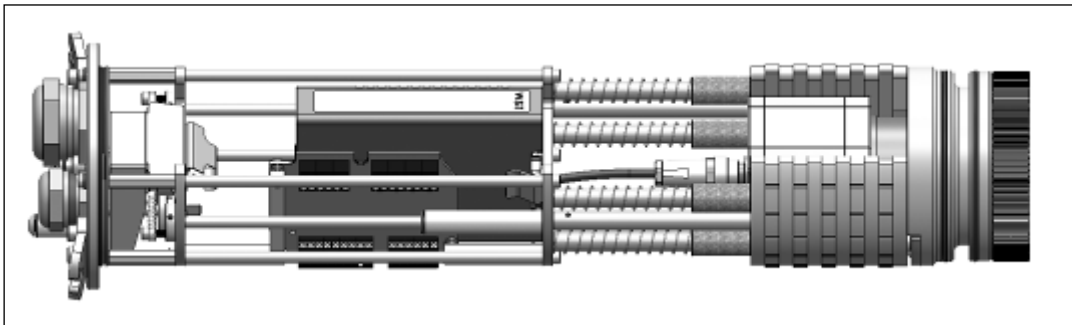

Figure 47: Chassis with PI camera, industrial PIF and USB server Gigabit
7. Then connect the PI camera and the USB server Gigabit with the provided USB cable and the Industrial PIF with the camera. Combine the network connector and the USB server Gigabit (**Figure 47**).